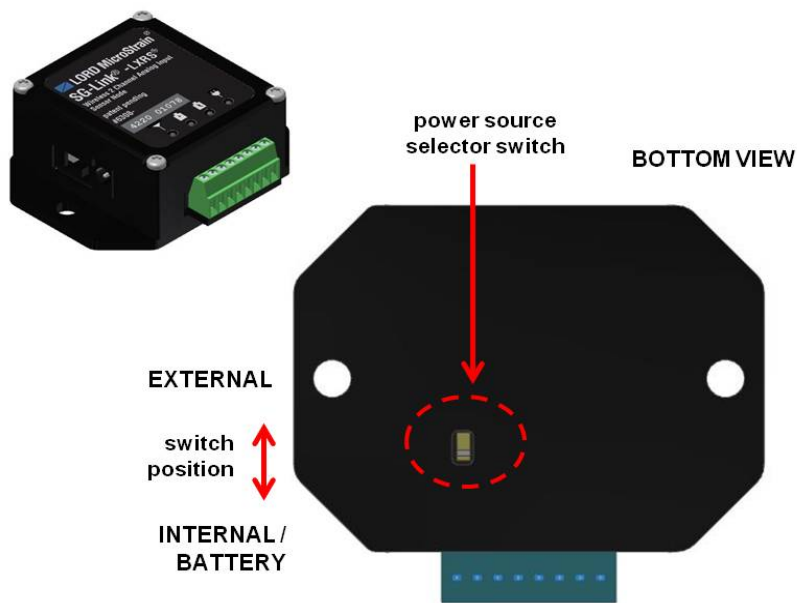

Figure 53 - Power Source Selection
2. Use a small flat-head screwdriver to push the recessed switch fully to the desired position, as indicated in Figure 53 - Power Source Selection. The figure shows the node configured for an internal power source.